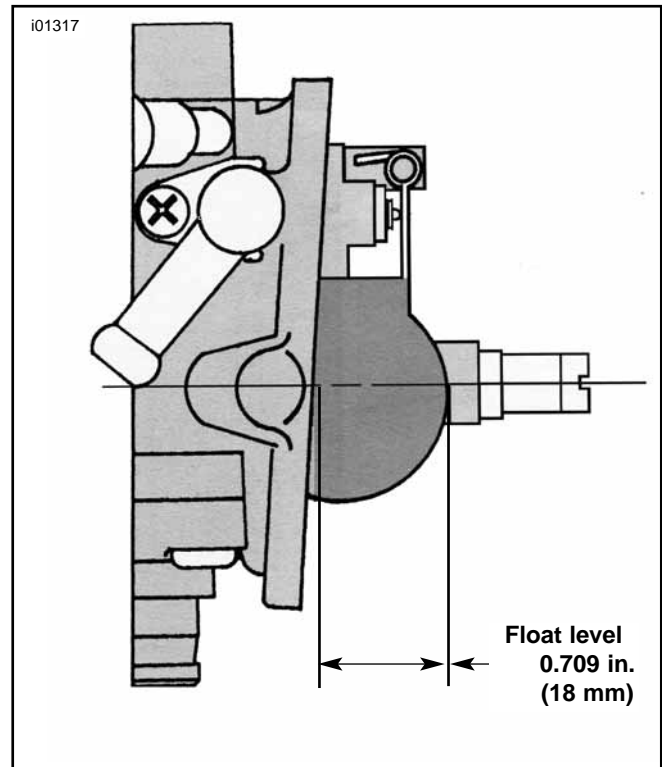

Figure 7. Checking Float Level
7. See Figure 7. Check float level with carb in position shown. The actuator tab should just begin to contact the needle valve assembly when the bottom of the float is 0.709 in. (18mm) from bottom surface of carb.